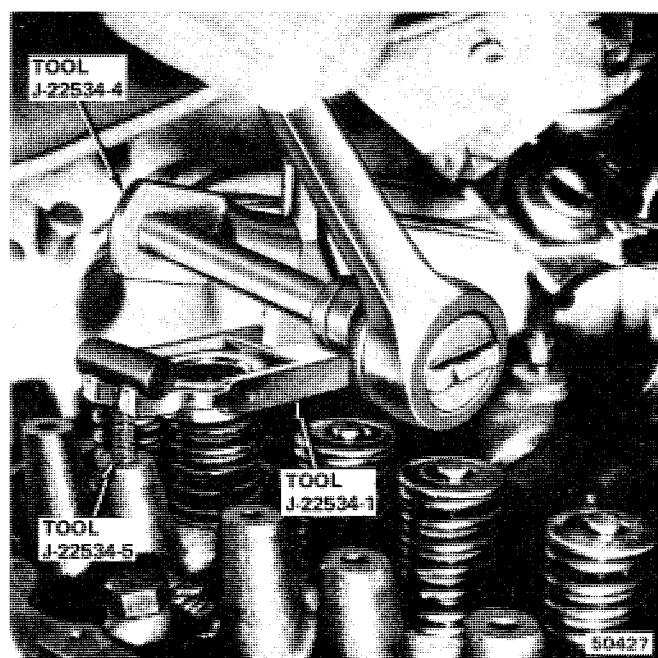

Fig. 1B-12 Valve Spring Removal
(7) Use Valve Spring Remover and Installer Tools J-22534-1, J-22534-4 and J-22534-5 to compress spring and remove locks (fig. 1B-12).